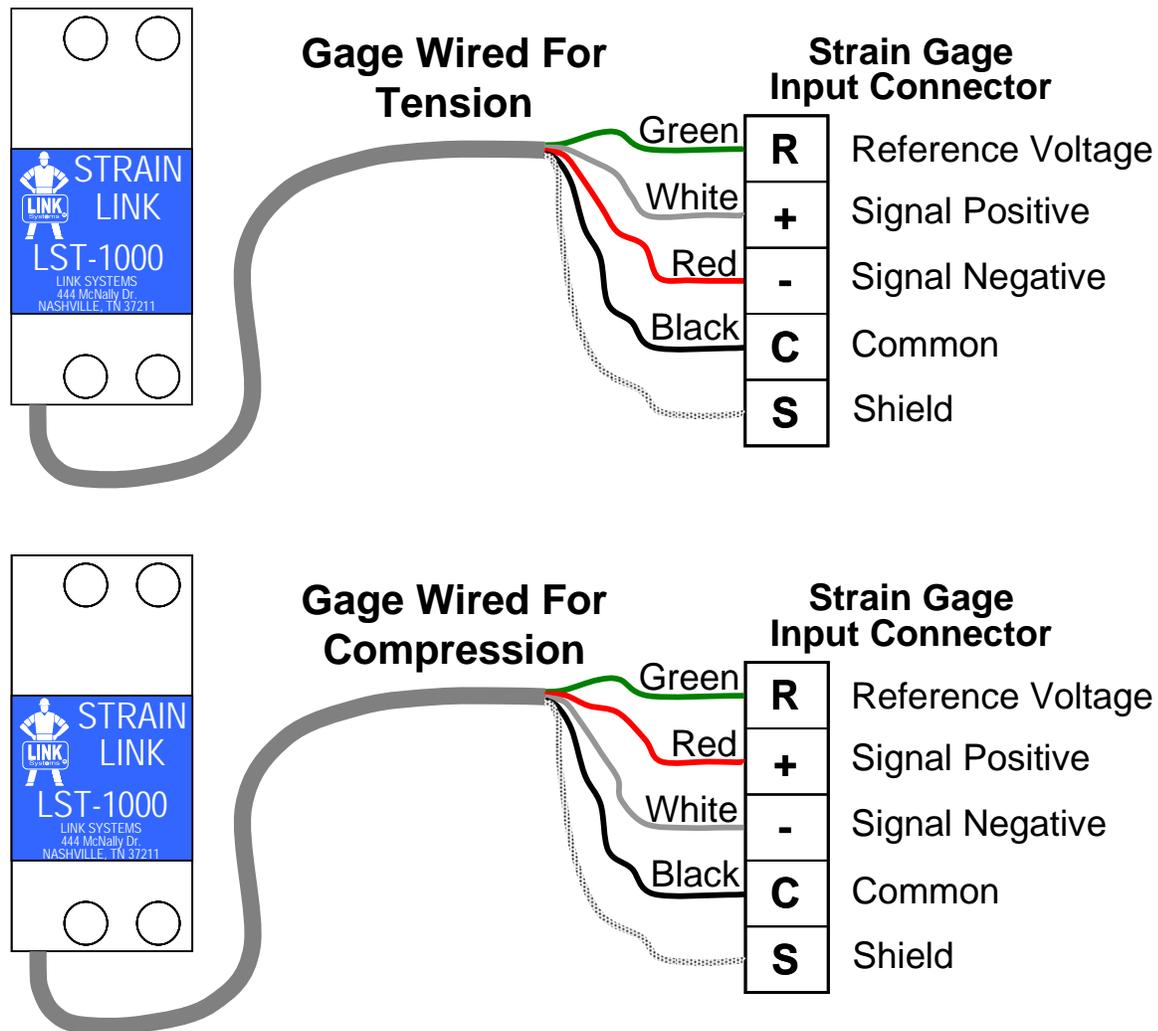

Figure 36: Strain Gage Wiring
- 4) Wire the channel connectors as shown in Figure 36. Cover or tape the shield, to avoid accidental shorting to any other point.